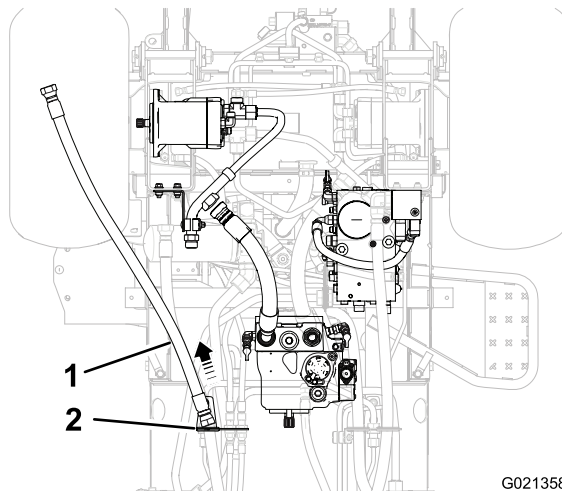

Figure 3
6. Pull the rear-traction hose through the hose support bracket, and remove the hose from the machine (Figure 3).